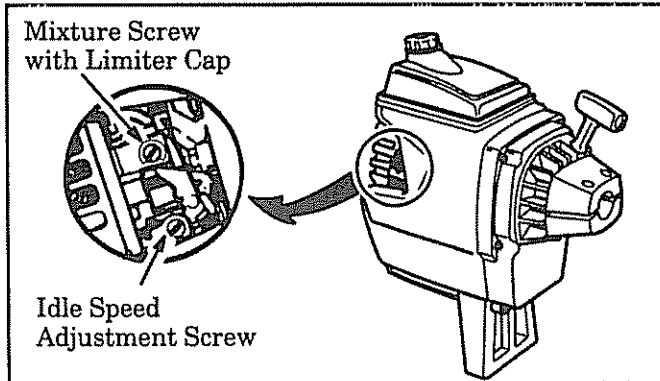

Figure 21
Turn the mixture screw (Figure 21) to the midpoint. *Do not attempt to adjust the screw beyond the stops as damage can occur.*
2. Adjust idle speed screw (Figure 21) until engine continues to run without stalling.
- b. **If the engine does not accelerate smoothly,** turn the mixture screw (Figure 21) counterclockwise a small amount (no more than the width of the slot in the adjusting screw).
3. Turn the mixture screw (Figure 21) very slowly counterclockwise until it stops. *Do not attempt to adjust the screw beyond the stops as damage can occur.*